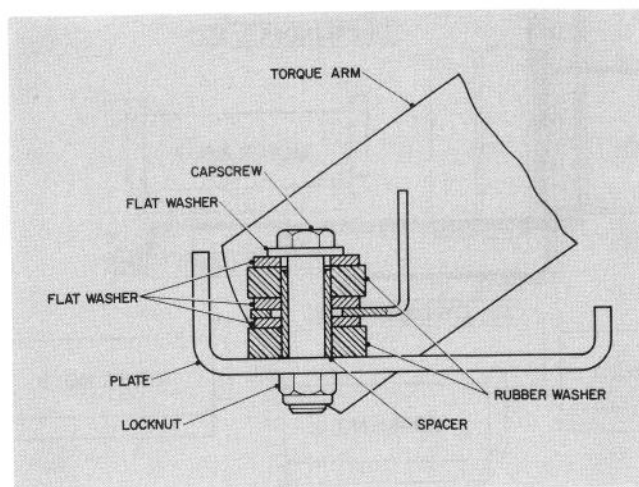

Figure 110
8. Secure the end of the torque arm to the torque arm plate. Refer to Fig. 110 for proper assembly of parts.